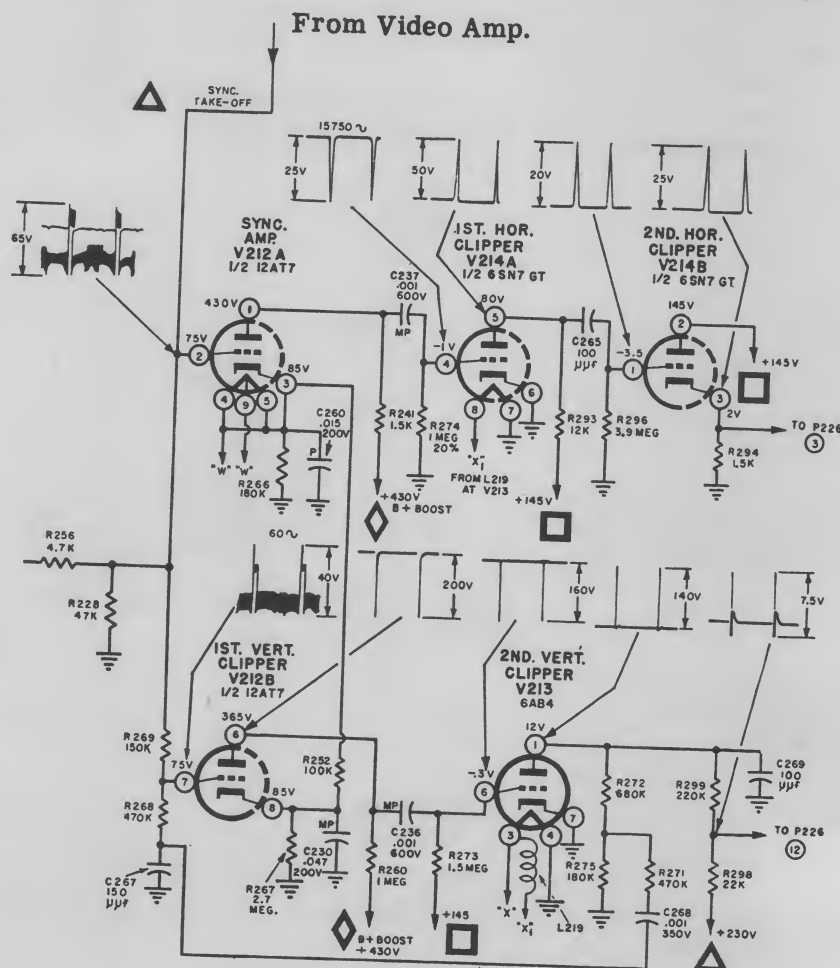

Fig. 5-4. Sync circuits: DuMont RA162.
The sync circuits of the DuMont RA162, unlike those previously studied, contain separate vertical and horizontal sync clippers. Figure 5-4 is a schematic diagram of this circuit. The common sync take-off is the plate of the video amplifier. The positive-going composite video signal at this point feeds two paths.
- b. Gated tube, using two pulses for comparison and operating on a blocking oscillator. This circuit is used in the DuMont RA162 (see Fig. 5-4), RCA 17T301, and the Admiral 19K1 chassis.